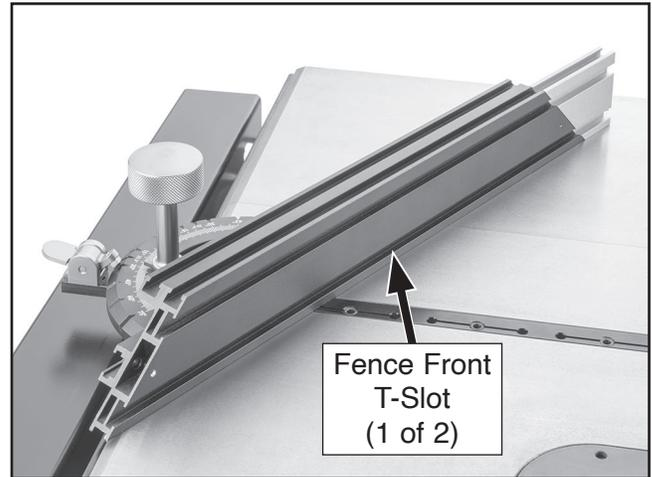

Figure 18. Sacrificial fence mounting T-slots.
2. Position board against front of fence and use T-slots shown in **Figure 18** to mark mounting holes.